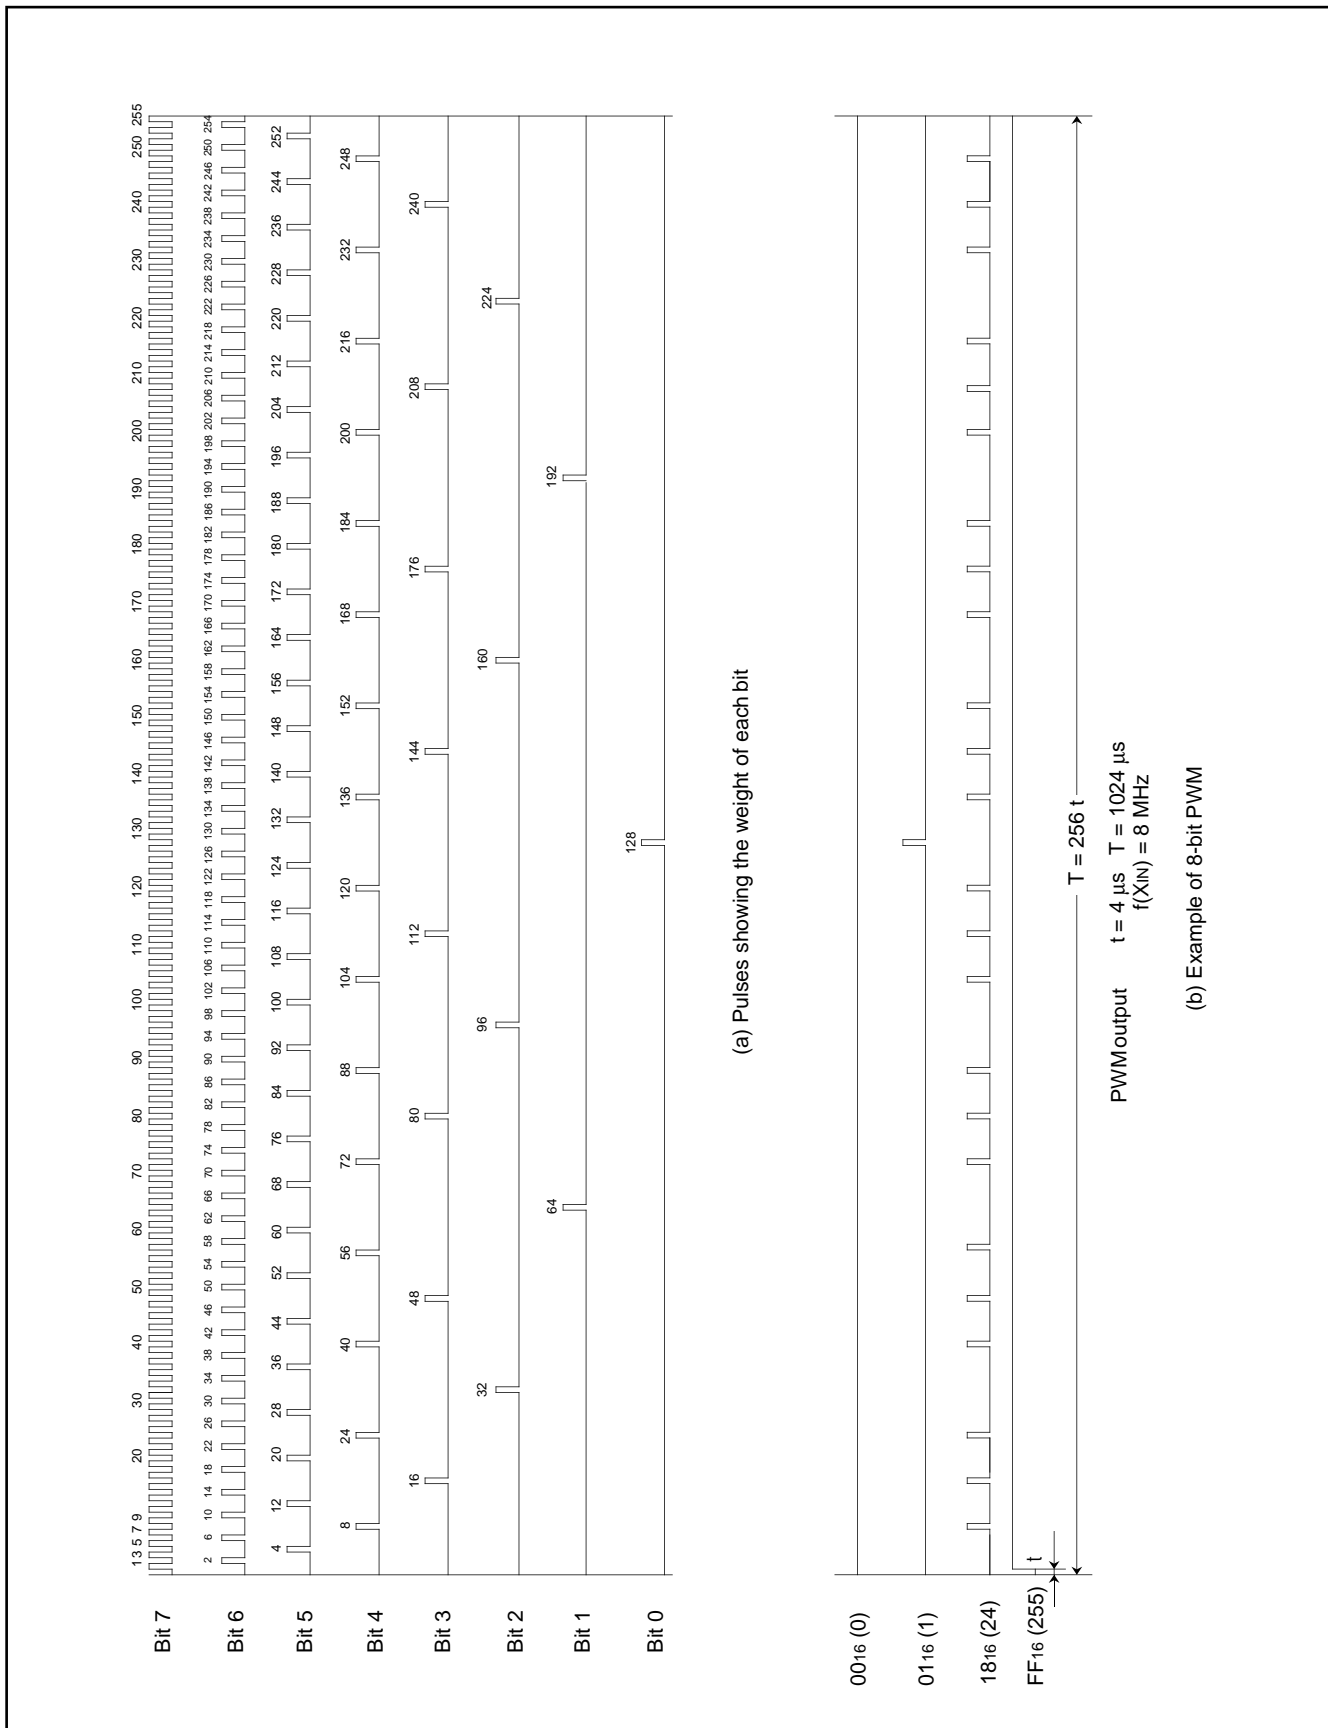

Fig. 13. 8-bit PWM timing
Figure 13 shows the 8-bit PWM timing. One cycle (T) is composed of $256 (2^8)$ segments. The 8 kinds of pulses relative to the weight of each bit (bits 0 to 7) are output inside the circuit during 1 cycle. Refer to Figure 13 (a). The 8-bit PWM outputs waveform which is the logical sum (OR) of pulses corresponding to the contents of bits 0 to 7 of the 8-bit PWM register. Several examples are shown in Figure 13 (b). 256 kinds of output (“H” level area: $0/256$ to $255/256$) are selected by changing the contents of the PWM register. A length of entirely “H” output cannot be output, i.e. $256/256$.
(4) Output after Reset